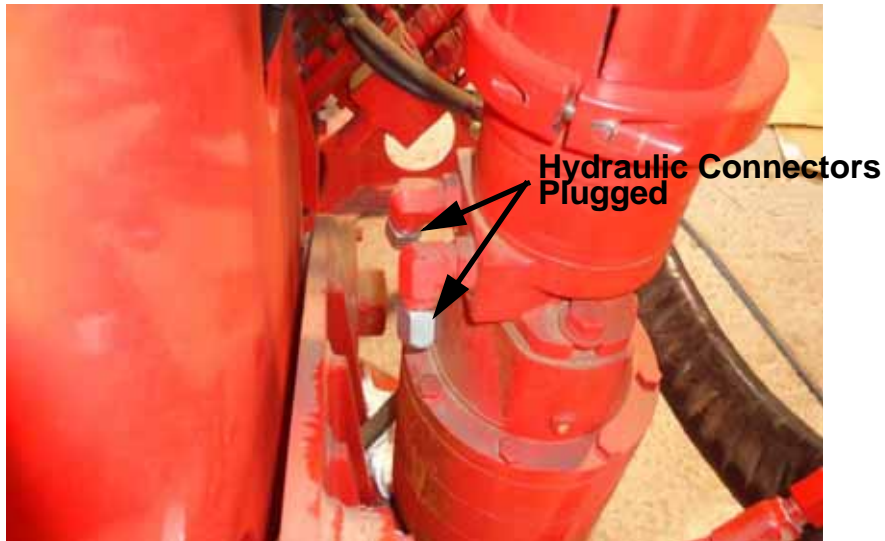

Figure 5: Hydraulic hoses removed and connectors plugged.
5. Cap and plug hydraulic connectors with #8 JIC cap and plugs. See Figure 5.